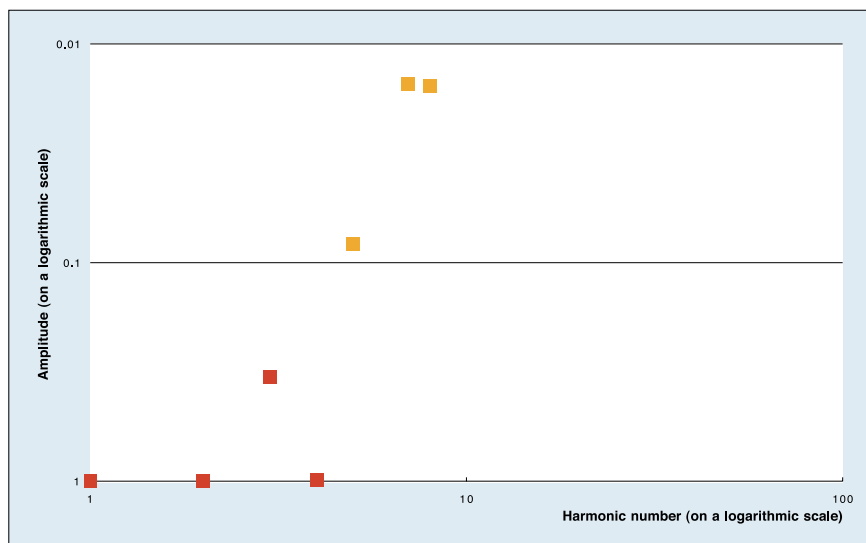

Figure 3: Trying to synthesize 80 8800 000.
► Figure 3 (above). As you can see, the first four harmonics are present in the expected amounts, but three more — which I have shown in orange — are also present, albeit at lower amplitudes. We might be able to excuse the rightmost of these because it lies on the eighth harmonic, and therefore represents a bit of leakage from the 2' drawbar. But the contributions from the fifth and seventh harmonics are not so welcome. They don't sound 'wrong' exactly — after all, they lie in their correct positions in a perfect harmonic series — but their contributions are inappropriate, and it is these that make the patch sound too bright (the 6th harmonic is entirely absent, but I'll leave you to work out why).